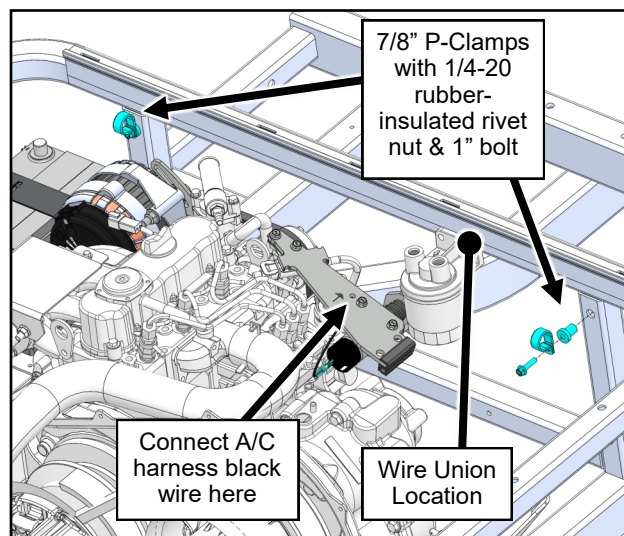

Fig. 5.1 (A/C Power Harness)
- 5.1** Route the A/C power harness around the front of the engine compartment and secure to the frame with two P-Clamps, rubber-insulated rivet nuts into the 1/2" holes in the frame and 1/4-20 bolts as shown in Figure 5.1.
- 5.2** Connect the large black wire from the A/C power harness to the hole in the solenoid bracket as shown in Figure 5.1.